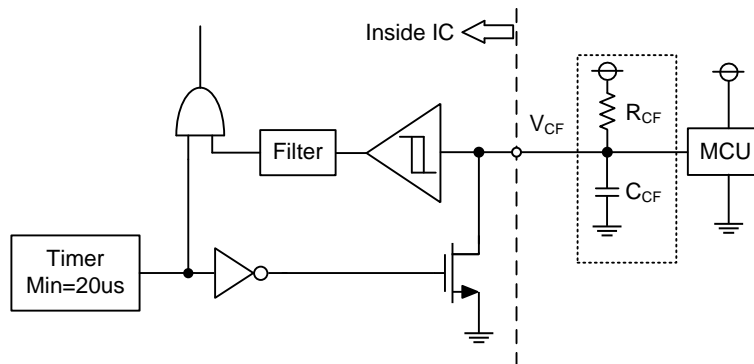

Figure 5. V_{CF} Output Circuit
- (1) If the control GND is connected with the power GND by common broad pattern, it may cause malfunction by power GND fluctuation. It is recommended to connect the control GND and power GND at a single point (N1), near the terminal of the shunt resistor.
- (2) There are two COM pins in the IPM but it is recommended to only use the (15) COM pin to minimize SC detection noise.
- (3) A zener diode D1 (24V/1W) is recommended between each pair of control supply pins to prevent surge destruction.
- (4) Prevention of surge destruction can further be improved by placing the bus capacitor as close to pin P and N1 as possible. Generally a 0.1-0.22 μ F snubber capacitor C3 between the P-N1 terminals is recommended.
- (5) Selection of the R1*C4 filter components for short-circuit protection is recommended to have tight tolerance, and is temperature-compensated type. The R1*C4 time constant should be set such that SC current is shut down within 2 μ s; (typically 1.5-2 μ s). R1 and C4 should be placed as close as possible to the C_{SC} pin. SC interrupting time may vary with layout patterns and components selection, therefore thorough evaluation in the system is necessary.
- (6) Tight tolerance and temperature-compensated components are also recommended when selecting the R2*C5 filter for V_{OT}. The R2*C5 time constant should be set such that V_{OT} is immune to noise. Recommended values of R2 and C5 are 2k Ω and 10nF.
- (7) To prevent malfunction, traces A, B, and C should be as short as possible.
- (8) It is recommended that all capacitors are mounted as close to the IPM as possible. (C1: electrolytic type with good temperature and frequency characteristics. C2: ceramic type with 0.1-2 μ F, good temperature, frequency and DC bias characteristics.)
- (9) Input drives are active-high. There is a minimum 3.5kΩ pull-down resistor in the input circuit of IC. To prevent malfunction, the layout to each input should be as short as possible. When using RC coupling circuit, make sure the input signal levels meet the required turn-on and turn-off threshold voltages.
- (10) V_{CF} output is open drain type. It should be pulled up to MCU or control power supply (max= $5\pm 0.5V$), limiting the current (I_{CF}) to no more than 1mA. I_{CF} is estimated roughly by the formula of control power supply voltage divided by the pull-up resistor R3. For example, if control supply is 5V, a 10kΩ (over 5kΩ) pull-up resistor R3 is recommended.
- (11) If only a pull-up resistor R3 of 10kΩ connected to V_{CF} pin, the fault output pulse width is fixed at minimum 20us. If a capacitor C6 is connected with a pull-up resistor R3, the fault output pulse width can be controlled according to the resistor value and capacitor value. For the design guide, please refer to the Figure 5.
- (12) Direct drive of the IPM from the MCU is possible without having to use opto-coupler or isolation transformer.
- (13) The IPM may malfunction and erroneous operations may occur if high frequency noise is superimposed to the supply line. To avoid such problems, line ripple voltage is recommended to have $dV/dt \leq \pm 1V/\mu s$, and $V_{ripple} \leq 2V_{p-p}$.
- (14) It is not recommended to use the IPM to drive the same load in parallel with another IPM or inverter types.